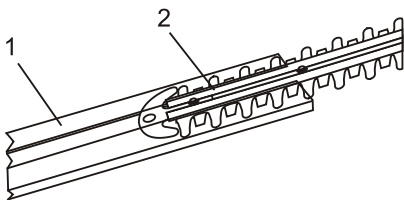

Fig. 6
1. Slide the blade guard (1) over the cutting blades (2) (Fig. 6).